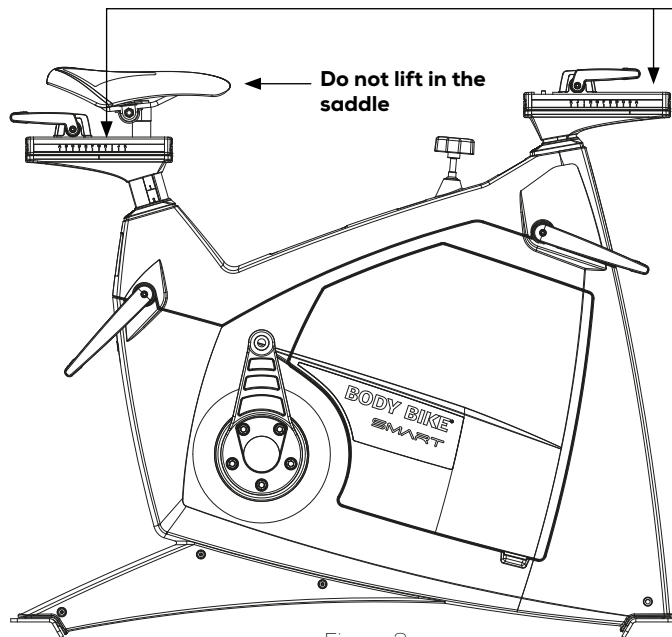

Figure 3
- 1) Arrange the bottom frames parallel on the floor next to the cycle with the correct mounting distance between them, see figure 3. On the front bottom frame, the transport wheels should point forward.
- 2) Take hold of the front post and seat post and lift the cycle onto the bottom frames, see figure 3. Ensure that the holes in the frame match the holes in the bottom frames.